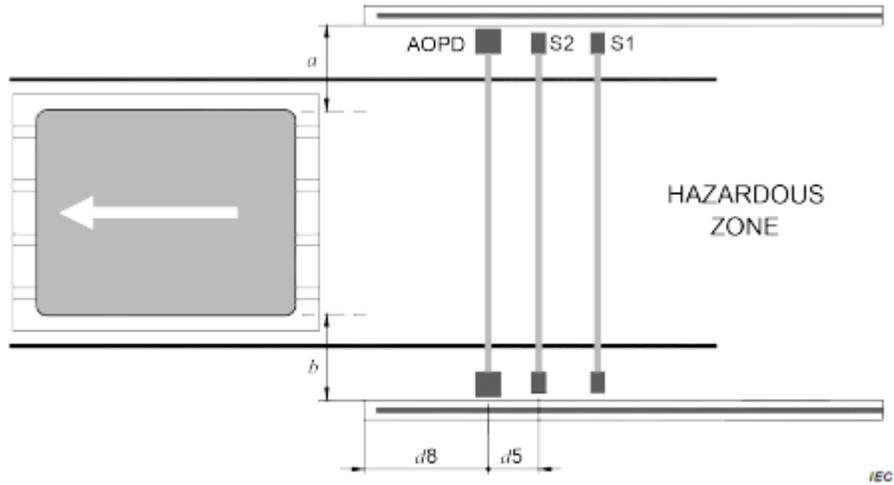

Figure D.28 – Two muting sensor beams – exit only
- Two beams with timing control. Used for exit applications only and named 'L configuration with timing control. The L configuration is shown below copied from Figure D.28 of IEC 62046: